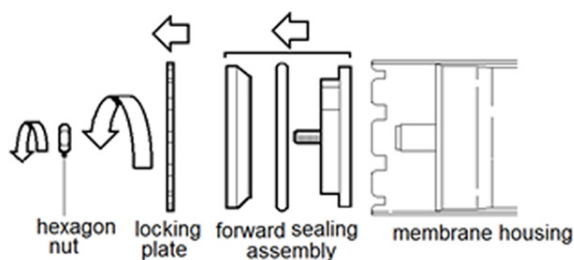

Fig. 22: Removal of locking plate and membrane chamber seal assembly
9. After the nut is removed, the locking plate must be rotated counter clock wise to be released from the locking tabs in the membrane housing and withdrawn from the unit. See figure 22 below: